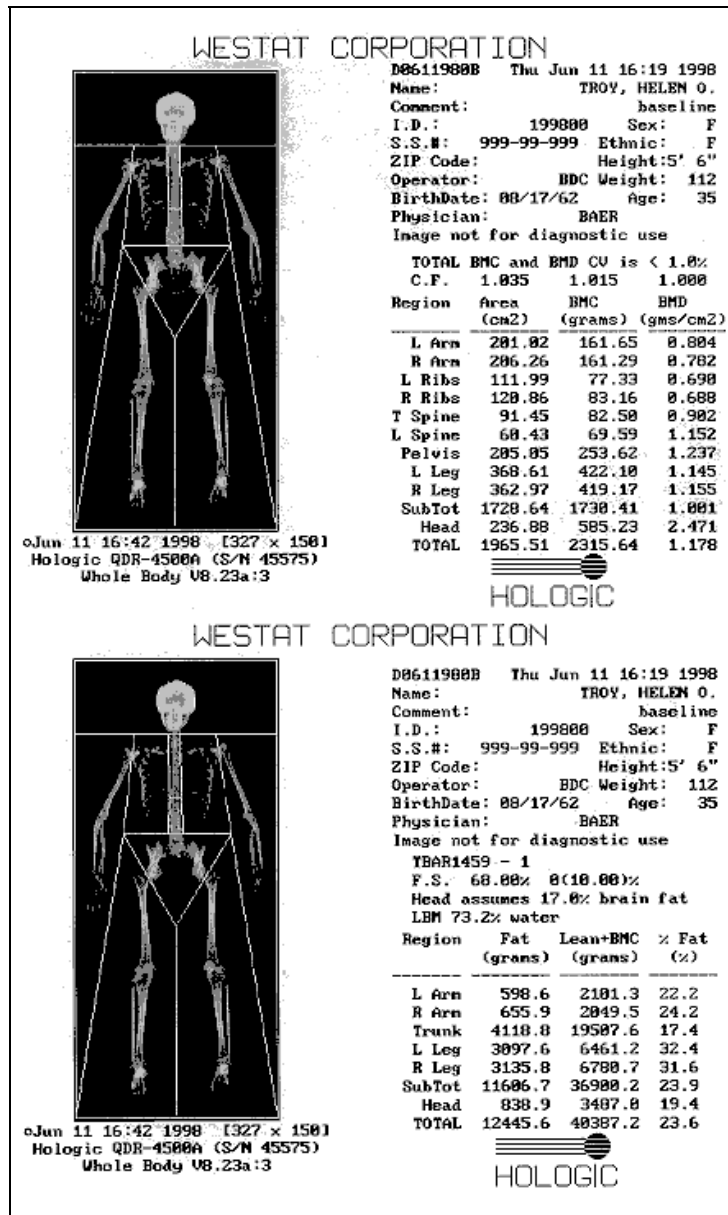

Figure 3-12. Data displayed after analysis (1)
- See Figures 3-12 and 3-13 for examples of the data displayed by the QDR 4500 when the analysis has been completed.
- Figures 3-12 and 3-13 show the data displayed after the regions of interest are selected and the analysis is completed.
- Figure 3-12 displays the percent fat by region and for the total body. The percent total body fat for the hypothetical SP in the example is 23.6 percent.